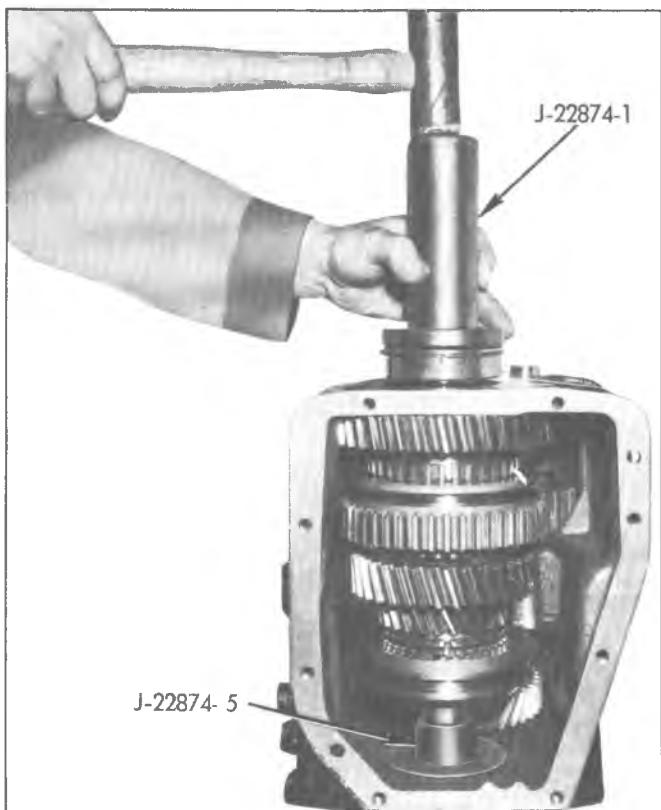

Fig. 23Q--Installing Mainshaft Rear Bearing
3. Install mainshaft assembly into case with rear of shaft protruding out rear bearing hole in case. Position Tool J-22874-5 in clutch gear case opening and engaging front mainshaft (fig. 23Q). Rotate case onto front end.
4. Install snap ring on bearing O.D. and position rear mainshaft bearing on shaft. Using Tool J-22874-1 drive bearing onto shaft and into case (fig. 23Q). Rotate case and remove Tool J-22874-5.